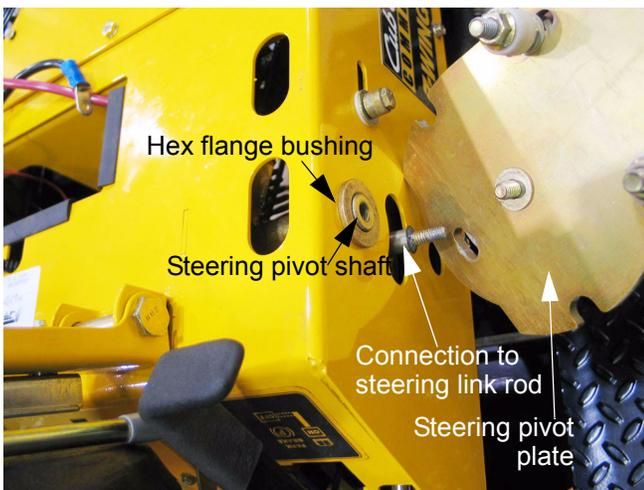

Figure 20.5
- 20.5. Unbolt the steering pivot plate from the steering pivot shaft using a 9/16" wrench, and remove the steering pivot plate. See Figure 20.5.